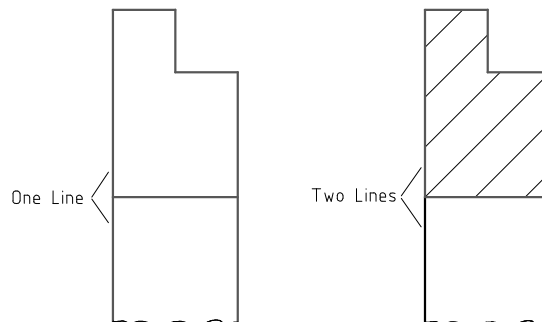

Figure 47: Preparation for the boundary entities.
1. Prepare the entities that surround the hatching area so they form a closed contour. The contour must be closed in a way that one entity is connected to the next one as shown in the right sketch of Figure 47.